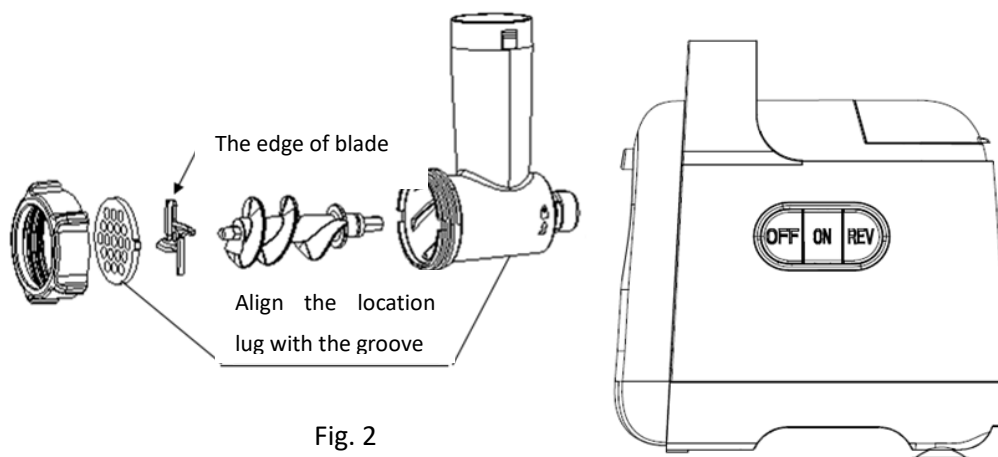

Fig. 2
2. Assemble the ream meat rod, blade disk and lock nut as illustrated as figure (see Fig. 2) before ream meat tube and the appliance can be used now.